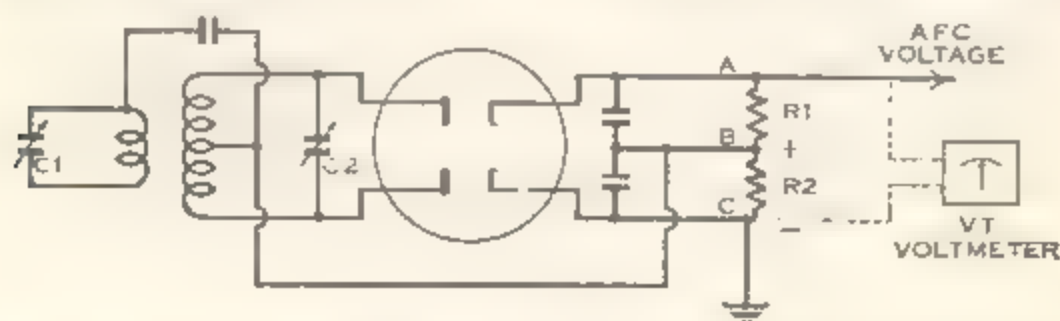

Figure 3 Simplified Circuit of Automatic Frequency Control Discriminator
if the receiver is so equipped. A simplified schematic of a commonly used AFC discriminator stage is shown in Figure 3. If the manufacturer's instructions are available, be sure to follow them. Otherwise the following method may be used.
b. Connect a high resistance DC meter such as the Simpson Model 266 Vacuum Tube Voltmeter across points (a) and (c) in Figure 3.